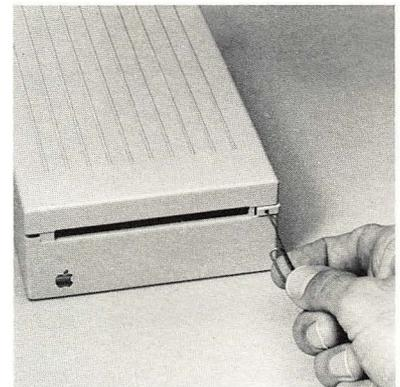

Figure 1-4
- Figure 1-4 Removing a 3.5-inch disk manually 3